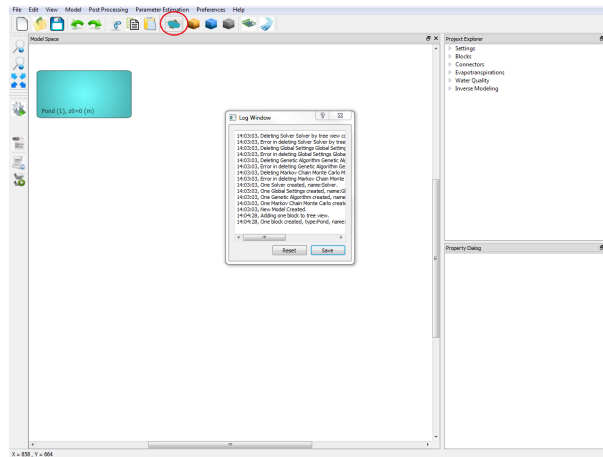

Figure 3: Adding a pond
3. **Add a pond to the model:** Add a pond by clicking on the pond icon  on the top toolbox (Figure 3).
- From the **Properties** window change the name of the object from the default "Pond (1)" to "Main Pond".